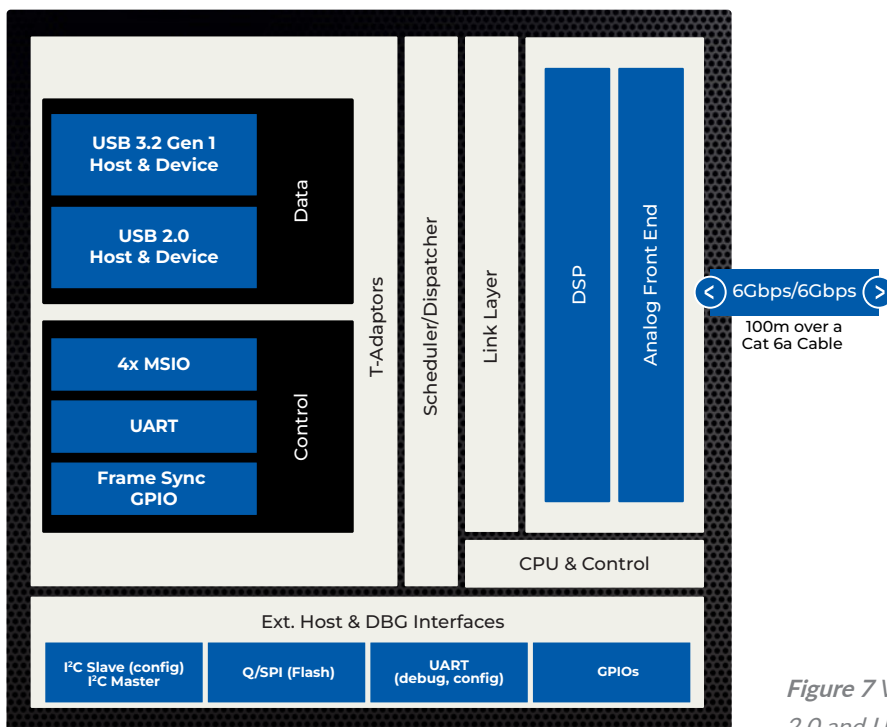

Figure 7 Valens VS6320 block diagram showing separate USB 2.0 and USB 3.2 interfaces along with UART, GPIO, and MSIO
- **USB-A** – Ensure the cable has the extra contacts to support USB 3.2. This is standardized with the presence of a blue (instead of white) internal tab, but some manufacturer may deviate from this and provide another means of indication. For example, use of the official labels from USB-IF indicating a certified cable, as shown in figure 7